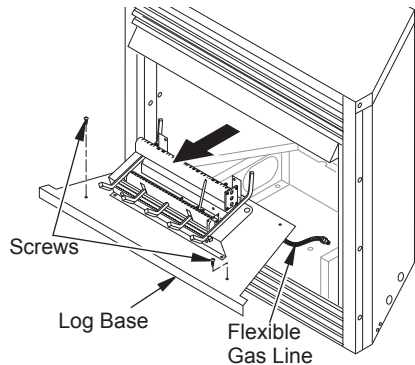

Figure 19 - Removing Log Base from Fireplace
- Remove screws that attach log base assembly to fireplace. Carefully lift up log base assembly and remove from fireplace, taking care to pull flexible gas line through the access holes (see Figure 19).